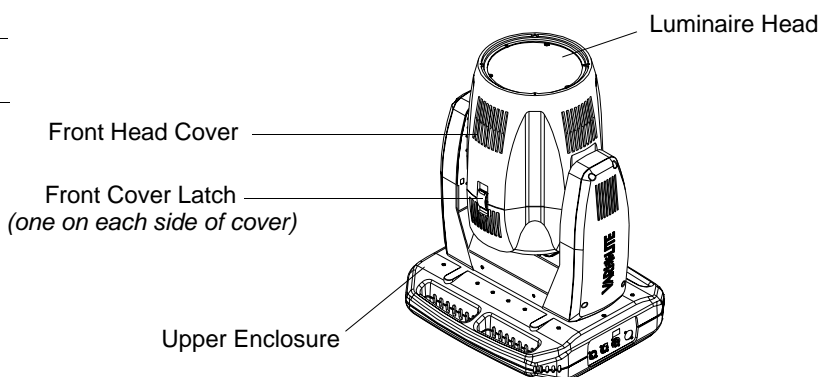

Figure 2-38: VLX Wash Luminaire
Step 2. Carefully set luminaire on upper enclosure, rotate head as shown in Figure 2-38, and engage tilt lock.